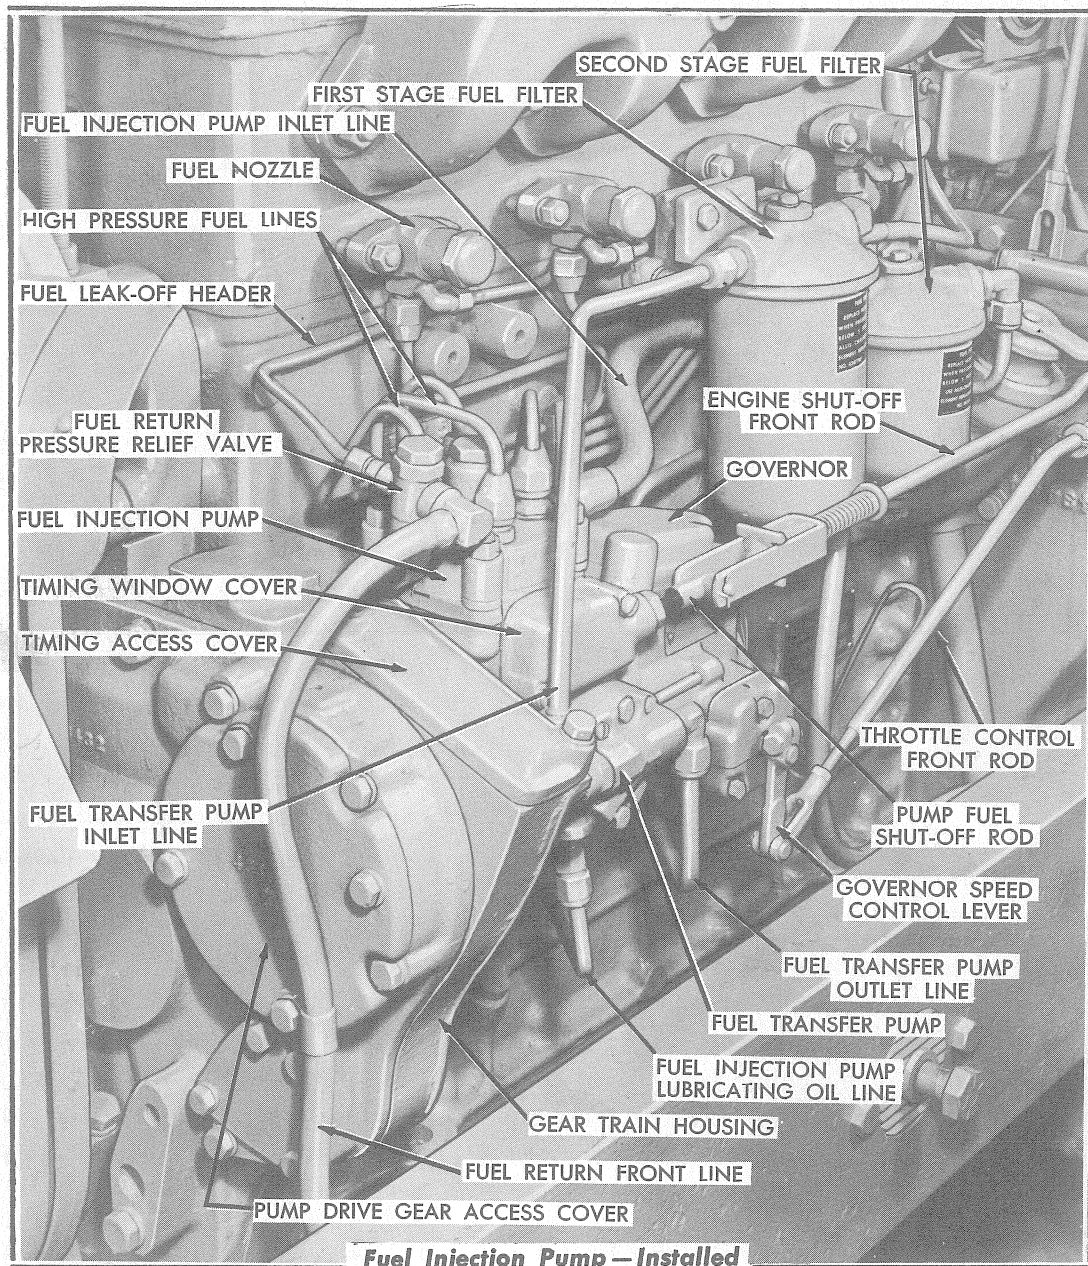
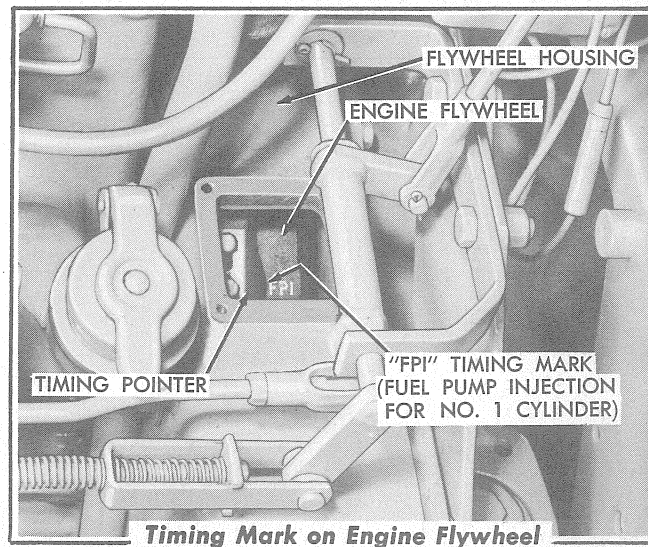
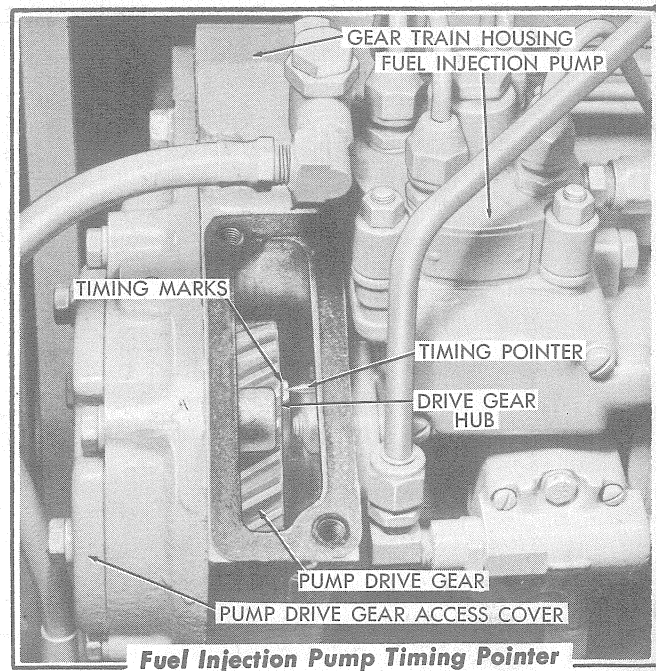
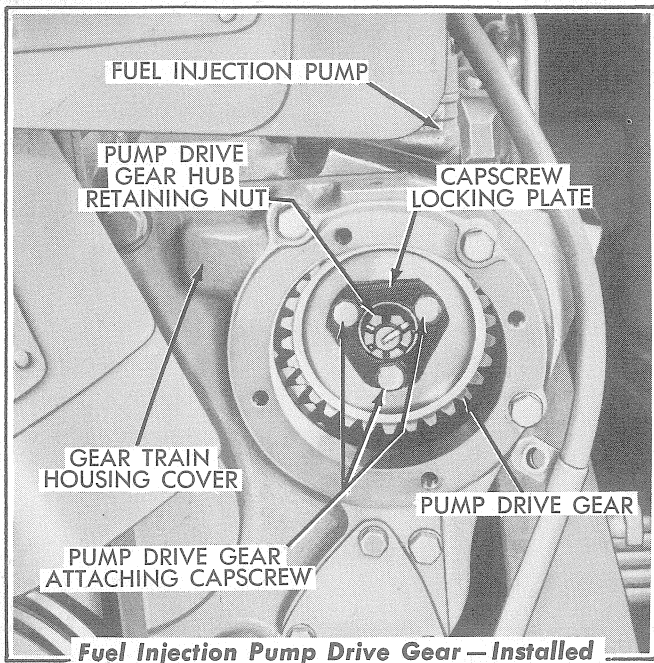

FIG. 20
FIG. 21
FIG. 22
FIG. 23
The fuel transfer pump should deliver more fuel to the fuel sump of the fuel injection pump than is required for engine operation. The fuel return pressure relief valve (Fig. 20), connected into the fuel return passage of the fuel injection pump, controls the maximum fuel pressure within the fuel sump of the injection pump. When the fuel pressure within the fuel sump of the injection pump exceeds 15 P.S.I., the fuel return pressure relief valve opens and allows the excess fuel to return to the fuel tank. The fuel leak-off from the fuel nozzles is also returned to the fuel tank through this valve. Check for an inoperative fuel return pressure relief valve or an inoperative fuel transfer pump as follows:
b. Crank the engine intermittently with the starter until the No. 1 piston is approaching top dead center on its compression stroke. This can be determined by observing the valves for the No. 1 cylinder. With both valves closed (valve push rods at the bottom of their travel), crank the engine by hand until the F.P.I. mark (Fig. 21) stamped in the engine flywheel is aligned with the timing pointer. NOTE: *If the tractor is not equipped with front mounted equipment, the engine may be cranked by hand by using a suitable wrench inserted on the crankshaft pulley retaining capscrew.*
(1) Remove the floor plate, move the gear shift lever to its neutral position, and pull the engine clutch operating lever to its engaged position.
(2) Using a suitable bar, or similar tool, inserted in the drive shaft universal joint, turn the joint counterclockwise (viewed from rear) until the F.P.I. timing mark on the flywheel is aligned with its pointer.
d. Remove the fuel injection pump timing access cover (Fig. 20) and observe the timing pointer of the fuel injection pump. With the F.P.I. timing mark on the engine flywheel aligned with its timing pointer as in b. and c. above, the fuel injection pump timing pointer should be aligned with the center timing mark on the drive gear hub (Fig. 22) of the pump.
f. Refer to Fig. 20 and disconnect and remove the fuel transfer pump inlet line. Disconnect the fuel transfer pump outlet fuel line from the transfer pump. Disconnect and remove the fuel injection pump lubricating oil line.
- i. Remove the pump drive gear access cover. Remove the three (3) pump drive gear attaching capscrews and remove the cap-screw locking plate (Fig. 23). Remove the pump drive gear.
- a. Remove the timing window cover (Fig. 20) from the fuel injection pump. One tooth of the plunger drive gear is marked (painted red) for timing the fuel injection pump for injection of fuel to the No. 1 cylinder. Referring to Fig. 25, turn the drive gear hub of the fuel injection pump until the marked tooth of the plunger drive gear is positioned approximately the distance of one (1) tooth to the REAR of the timing pointer in the pump housing, then hold the drive gear hub stationary. While holding the drive gear hub in the above position, the center timing mark on the drive gear hub should be aligned with the timing pointer as shown in Fig. 26. When the drive gear hub is released for the installation of the pump on the engine, the spring pressure on the cam of the pump camshaft will rotate the drive gear hub slightly in the counter-clockwise direction.
- b. With the No. 1 piston near the top on its compression stroke (valve push rods at the bottom of their travel) and with the F.P.I. mark stamped in the engine flywheel aligned with its timing pointer (Fig. 21), the engine is properly positioned for the installation of the fuel injection pump.
- c. Install the "O" ring gasket in position in the pump mounting flange. Install the fuel injection pump in position on the engine and secure the pump to the engine with three (3) pump mounting stud nuts and lockwashers.
- d. Refer to Fig. 23 and install the pump drive gear in position on the pump drive gear hub. Install the capscrew locking plate and start the pump drive gear attaching cap-screws but do not tighten at this time. NOTE: The attaching holes in the pump drive gear are elongated so that the pump drive gear hub can be turned slightly to properly time the fuel injection pump.
nut to align the CENTER timing mark on the drive gear hub with its timing pointer. While holding the CENTER timing mark on the drive gear hub in alignment with its timing pointer (Fig. 22), tighten the three (3) pump drive gear attaching capscrews. Remove the wrench used for turning the drive gear hub retaining nut.